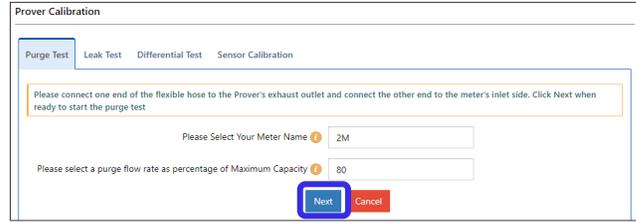

Figure 92: Check connections, and start purge test
14. Click **Next** to start the blowers to start the meter purge (Figure 92).